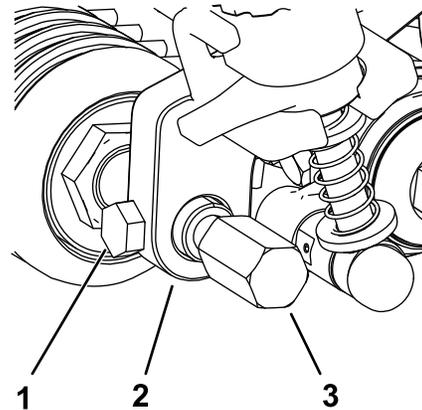

**Figure 20**
4. Align the adjuster-arm assembly rod near the idler assembly with the adjuster collar on the idler assembly and secure it with an adjuster pin and cotter pin (Figure 20).